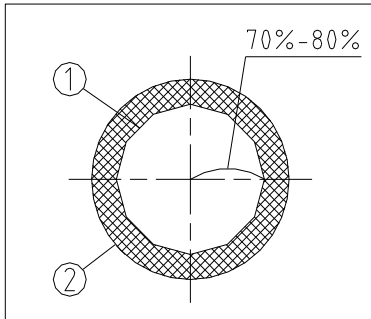
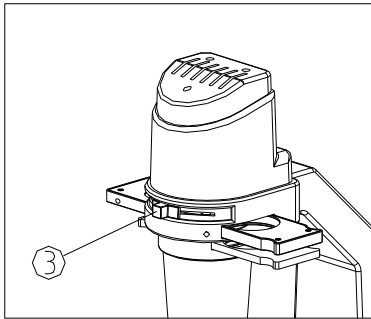

Fig. 19
Fig. 20
The objective could be moved if needed when affirming the aperture diaphragm. (The centering telescope can be inserted) Observing through the eye tube, and adjust the aperture diaphragm adjusting rod ③ until see the field of view as Fig.19. (See Fig.19 and Fig.20. In Fig.19, ① is Image of aperture diaphragm, ② is Objective outline)